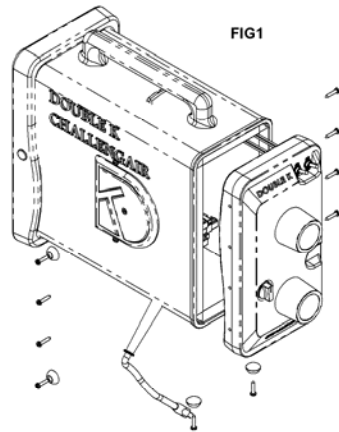
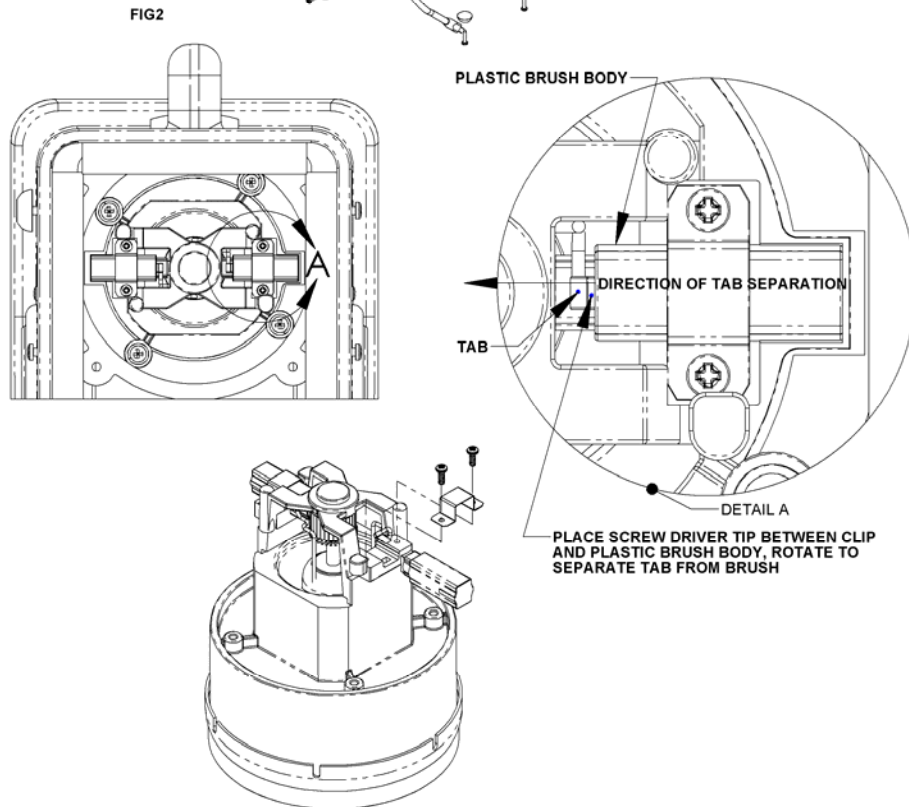

FIG1
FIG2
**To Check and/or Replace brushes:** (a) Unplug electrical cord from wall outlet. (b) Detach your front plate by loosening the fastening screws. (See Fig. 1). (c) Remove front plate and set aside (motors and brushes are now visible and accessible). (d) Remove tab from brush assembly using a flat blade screwdriver to push it out of the brush housing. (See fig. 2) (e) Loosen and remove the two screws in the brush bracket and remove brush. (f) Insert new brush assembly in place and replace brush holding bracket by replacing and tightening the two screws. (g) Insert the brush tab into the cavity of the new brush. (h) Replace dryer front plate and securely tighten all fastening screws.